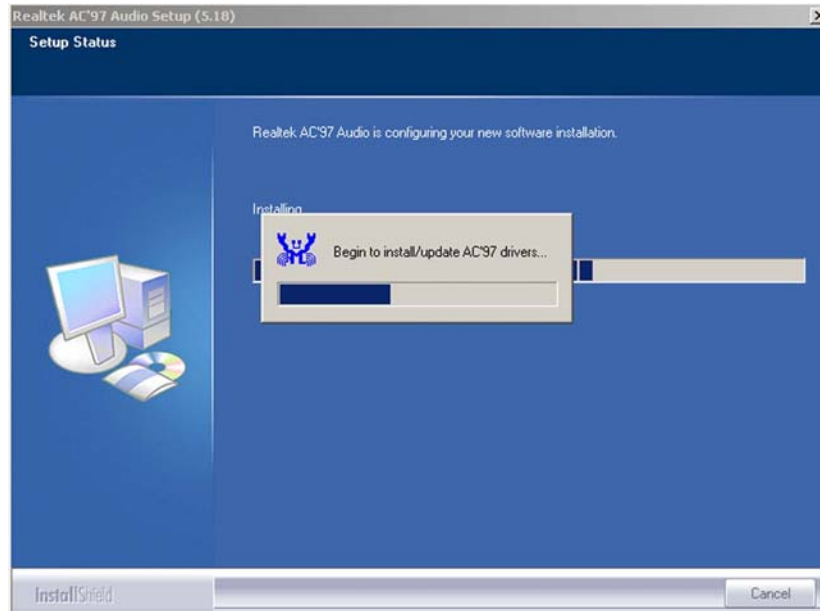

Figure 7-29: AC'97 Audio Driver Installation Begins
Step 8: After clicking the “**YES**” button in **Figure 7-28**, the installation of the driver begins (**Figure 7-29**).